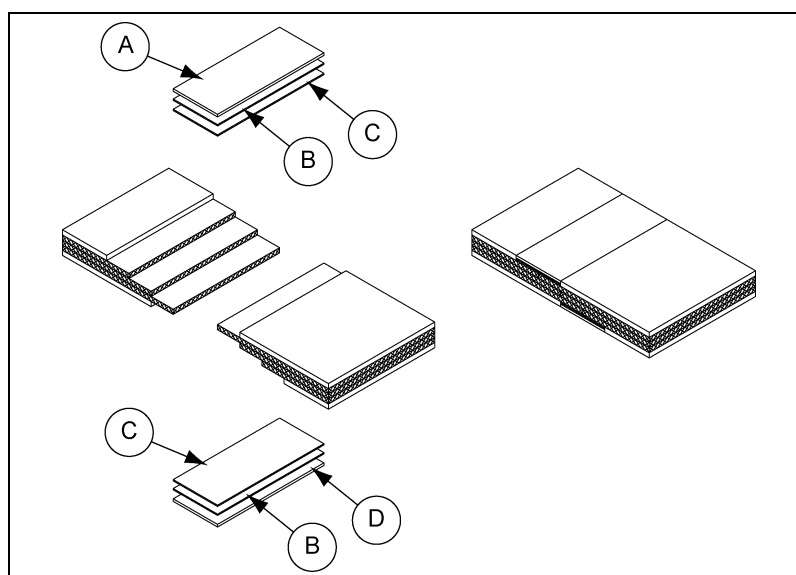

Figure 4S *Stepped Vulcanized Splice*
For some applications, such as when a plow assembly or multiple tripper assemblies are incorporated into a conveyor belt, a vulcanized belt splice is required. This type of splicing joins the two (2) ends of the belt rubber together with the adhesive power of a cement compound without the use of mechanical fasteners. Once the plies of the belt have been glued together, the seam is placed in a portable electric vulcanizing press, which applies even heat and pressure to the joint as the cement compound hardens. A stepped splice like the one shown in Figure 4S is a typical application of a vulcanized belt splice.